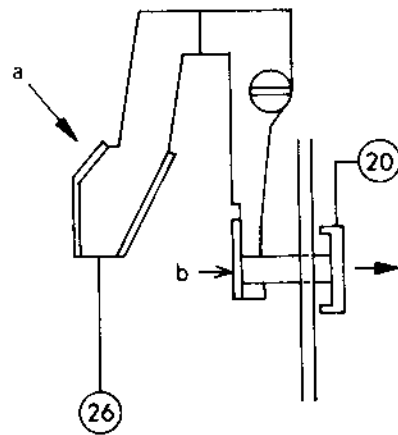

Fig. 23
14. (Adjust by bending the b section, with the 20 set for rear feed, so that the claw tip of 20 goes further deep when 26 a is pushed in the direction of arrow mark. Refer to Fig. 23)